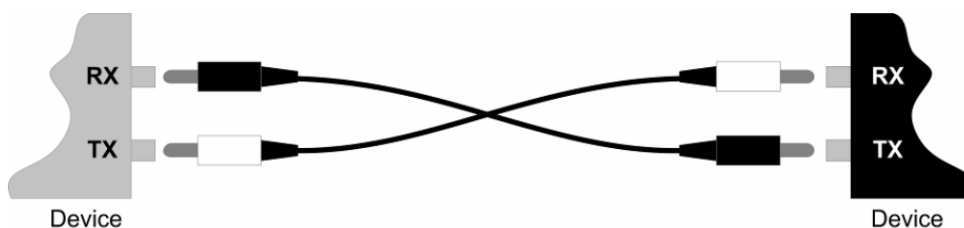

Figure 14: Fiber Cable Connections
3. Connect the fiber cable as shown in Figure 14 below.